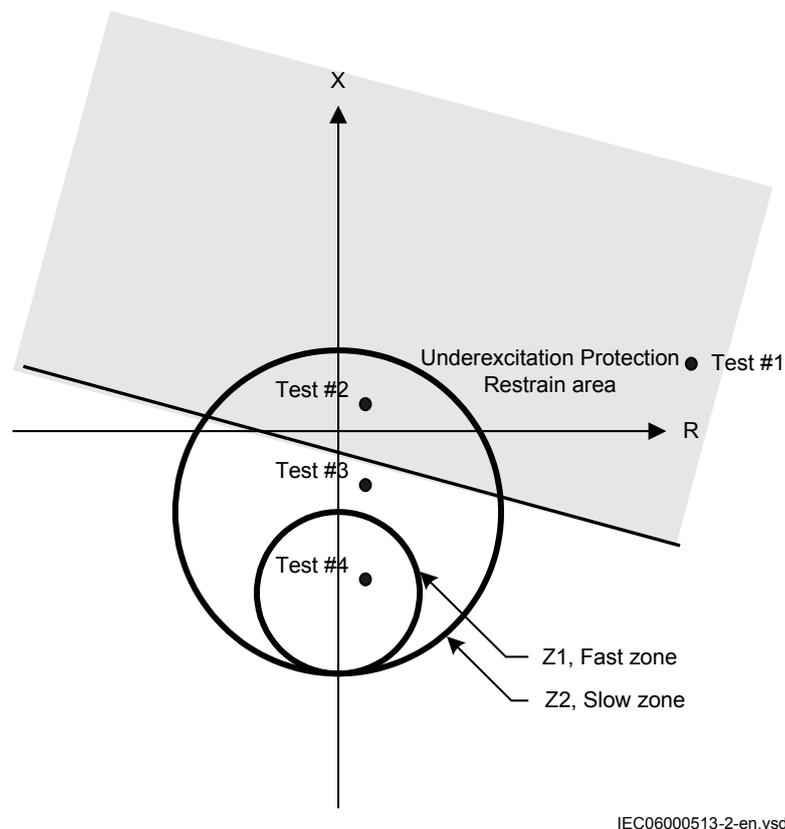

Figure 10: Testing current and voltage corresponding to the apparent impedance
5. Feed the IED with current and voltage corresponding to the apparent impedance: Test #4, as shown in figure 10. Read the analog outputs for R and X and check that this reading corresponds to the injected impedance. The signals START, STZ2 and STZ1 shall be activated instantaneously and the signals TRIP, TRZ2 and TRZ1 shall be activated after the different set time delays.